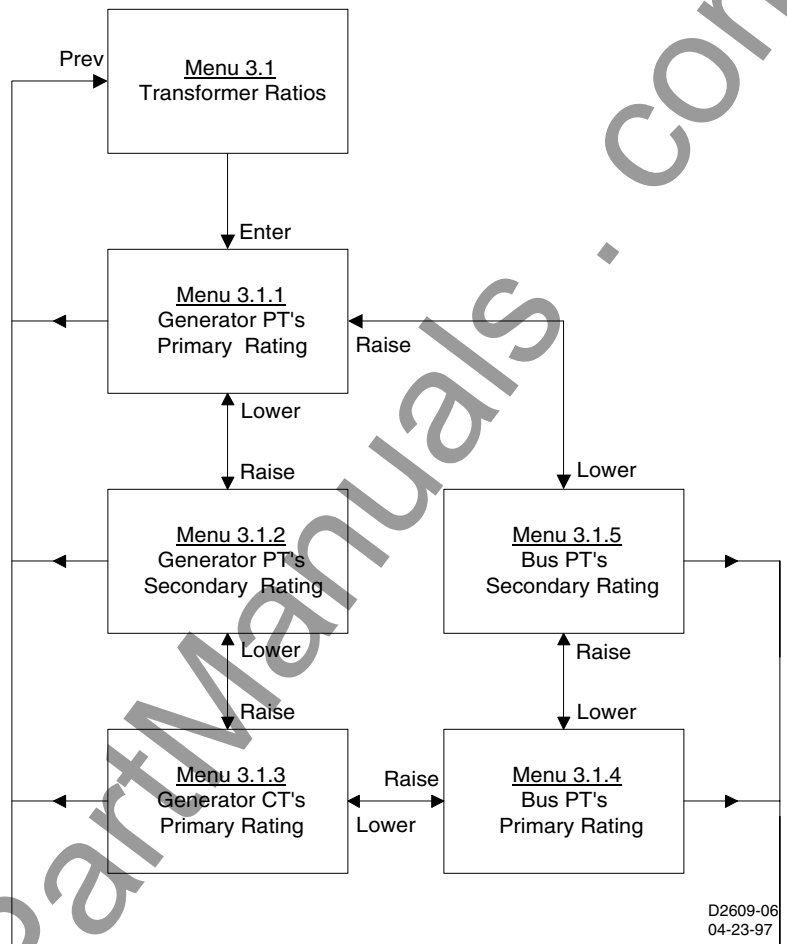

Figure 3-8. Menu 3.1
**Menu 3.1.** Menu 3.1 transformer ratios menu. Menu 3.1.1 (Figure 3-8) displays generator potential transformer primary voltage rating. Pressing **Select/Enter** displays the value. This is not adjustable from the front panel. Pressing **Previous** twice goes to menu 3.1. Pressing **Raise/Scroll** goes to menu 3.1.2. Pressing **Lower/Scroll** goes to menu 3.1.5.